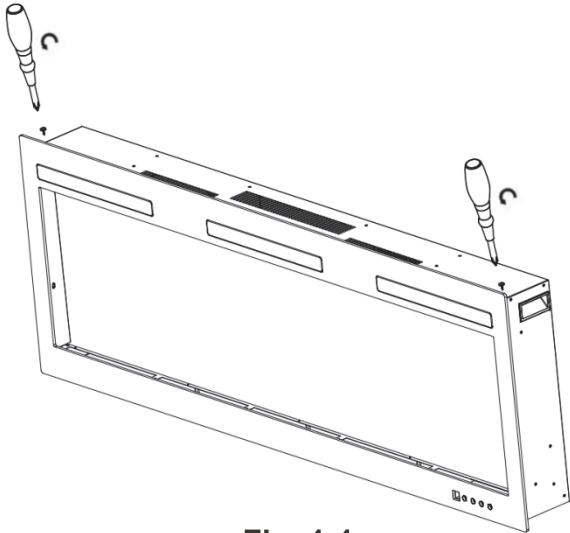

Fig. 1-1
- A. Take off the screws on both sides (**Fig. 1-1**).